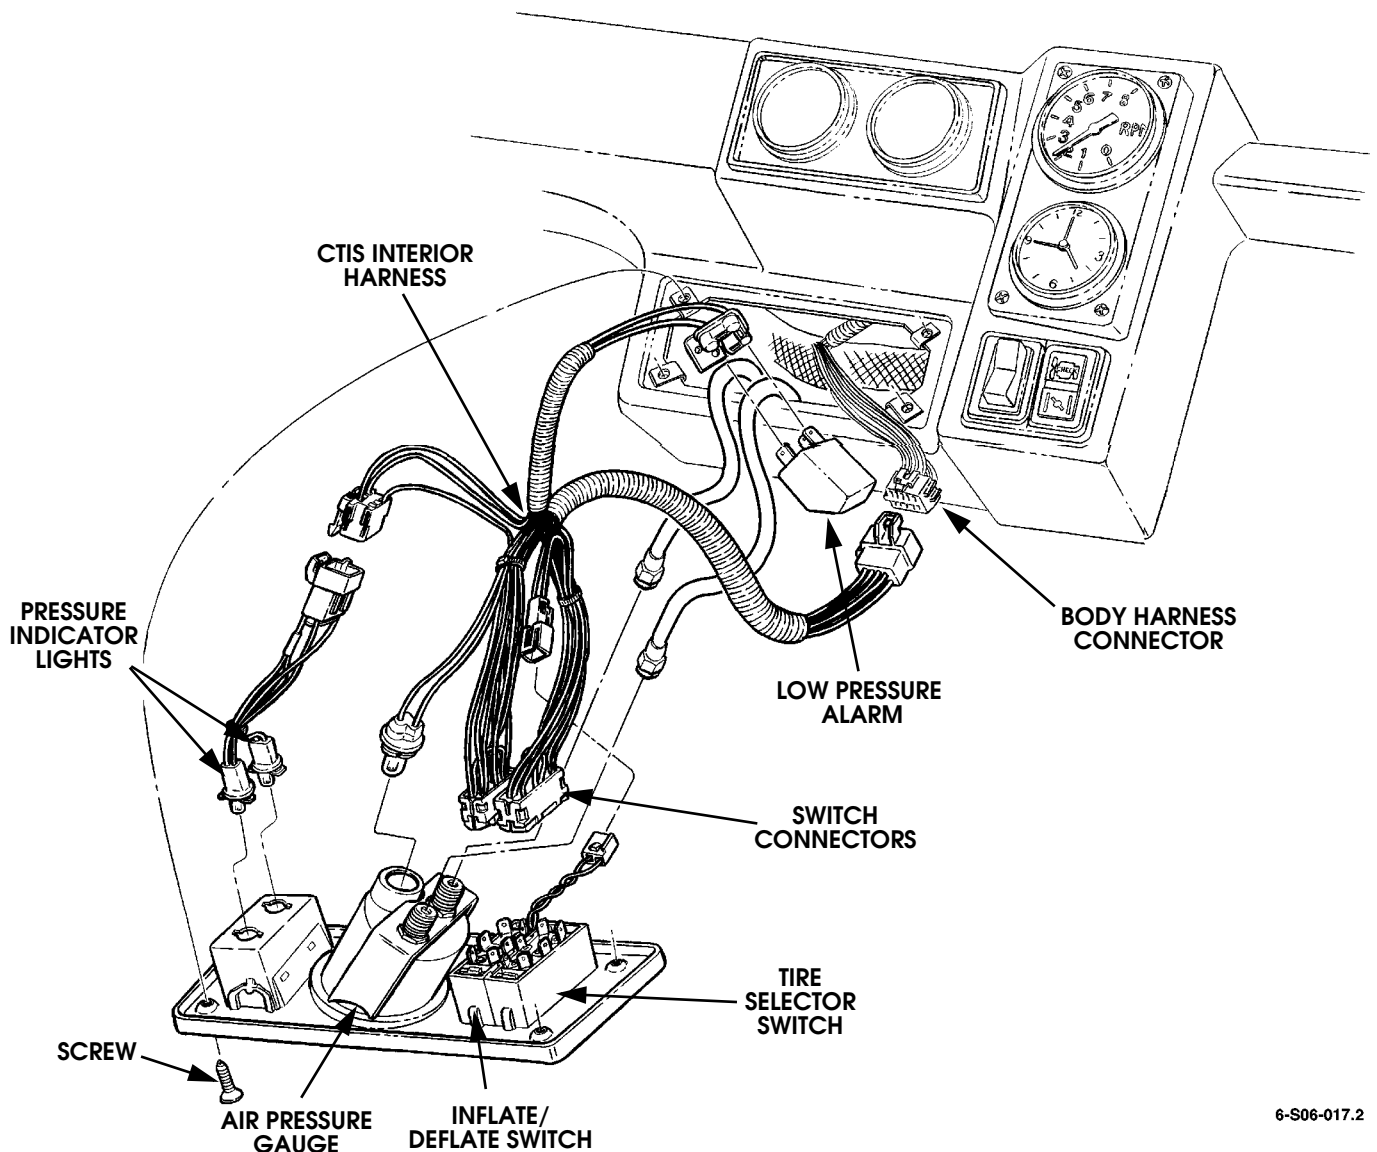

Figure 6-63: CTIS Interior Harness Appearance
2. Disconnect connector from inflate/deflate and tire selector switches (Figure 6-63).
1. Position interior harness in approximate mounting location and connect harness connector to body harness connector (Figure 6-63).